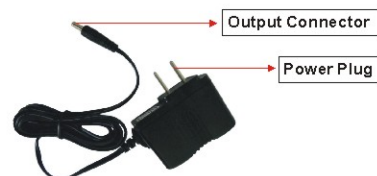

Fig3. Power Adaptor
- (3) Power Adaptor (see Fig 3)